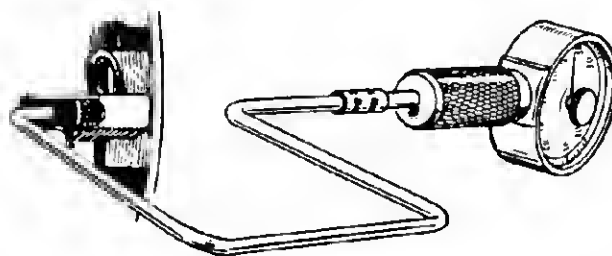

FIGURE 39a. MEASURING BRUSH SPRING TENSION
**Inspection for Brush Spring Tension:** Measure brush spring tension with a tension meter (Figure 39a). Push the brush into its holder and take the reading just as the brush slightly projects from the brushholder. On a new brush the spring tension should be 49 to 59 ounces (1.37–1.65 kPa) for RCCK engines and 29 to 38 ounces (0.81 to 1.06 kPa) for MCCK engines.